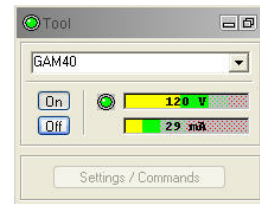

Figure 4-1 Tool panel
2. Select the relevant QL40-GRA tool from the drop down list (Figure 4-1) in the software's **Tool** panel (if your tool is not listed check that your tool configurations file is stored in the designated folder on your computer).
4. On the **Tool** panel (Figure 4-1) click the **Settings / Commands** button to configure your tool (see chapter 4.5 for details).